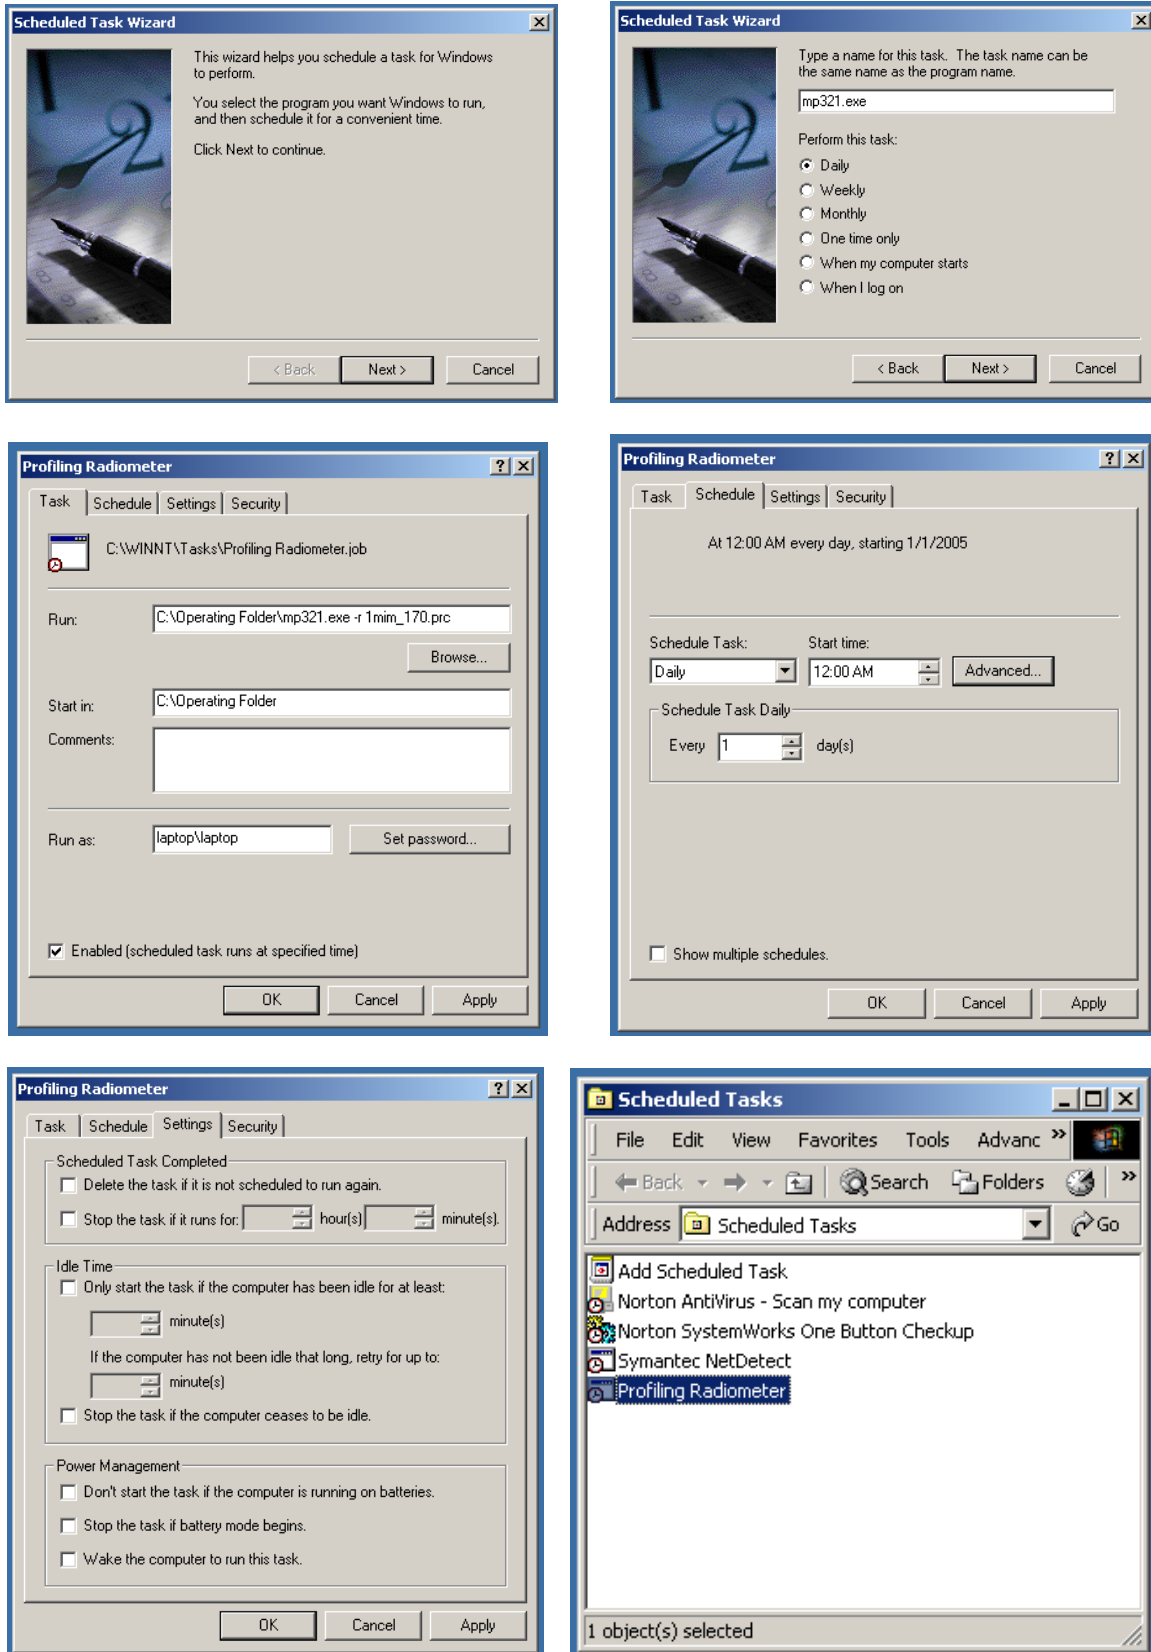

Figure 36 Screen Shots of the Task Scheduling Procedure
2. Select “Add Scheduled Task” and follow the instructions in the “Task Wizard” to set up a new schedule. Refer to Figure 36 for examples of the dialog. Browse to the Operating Code file (mp.exe or similar) in the operating folder and select it to be the scheduled task. Specify that the task should be performed daily with a start time of 12:00AM. The start day can be any day prior to the current date. Enter the user name and password.³³ Check the box “Open Advanced Properties...”. Click “Finish” to complete the basic schedule.
This completes the process to set up a 24-hour schedule to run the Operating Code with a specified Procedure File. To start the schedule immediately, right-click on the schedule icon in the Scheduled Task Folder (lower right screen shot in Figure 36) and select **run**. This will start execution of the Operating Code immediately. Thereafter, it will restart automatically every day at 00:00 UTC.